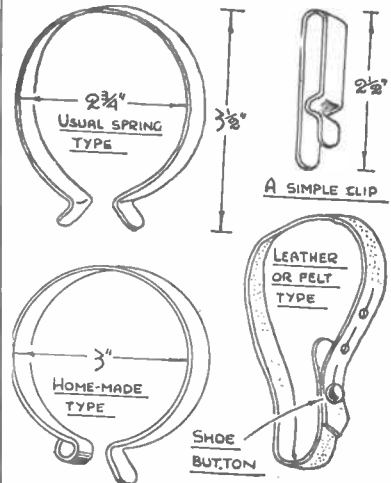

Fig. 1—Commercial and home-made types
That is an unwise sort of policy. Two clips should be used, even out of respect for one's trousers. Fortunately, clips are things easily made. The usual bought variety are shown at Fig. 1, with two home-made ideas.
**R**EADERS who make dolls' houses and take great pride in realistic furnishings in miniature will, we know, be interested in the simple little wall clock shown at Fig. 1. It is made from an old wrist watch and a few scrap pieces of fret-wood.